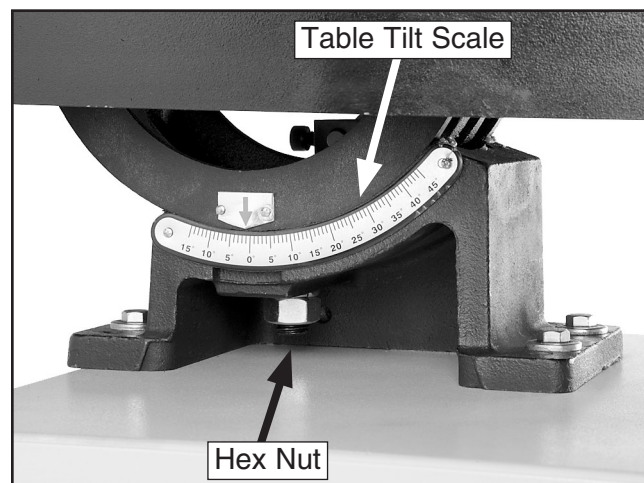

Figure 31. Table tilt scale and hex nut.
- Use a 23mm wrench to loosen the hex nut underneath the rear of the table (see **Figure 31**).